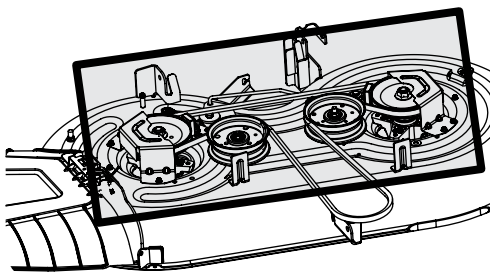

Figure 4-3
- Clean the top of the mower deck, under the spindle covers and belt area. See Figure 4-3.